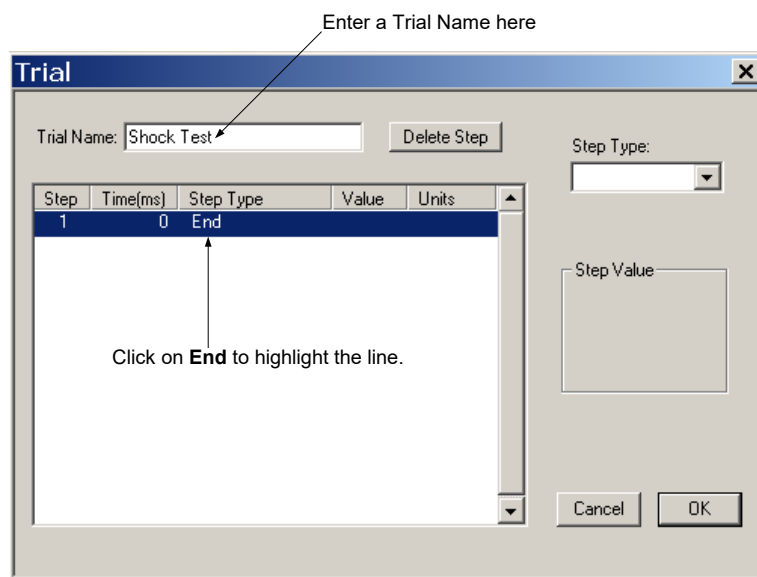

Figure 47 Step-by-Step Trial Example 1
2. Click on **End** to highlight the line (Figure 47). You will do this often during trial creation efforts. Think of this step much like an *enter* key. Each time you add a step, click on the end key to register the entry.